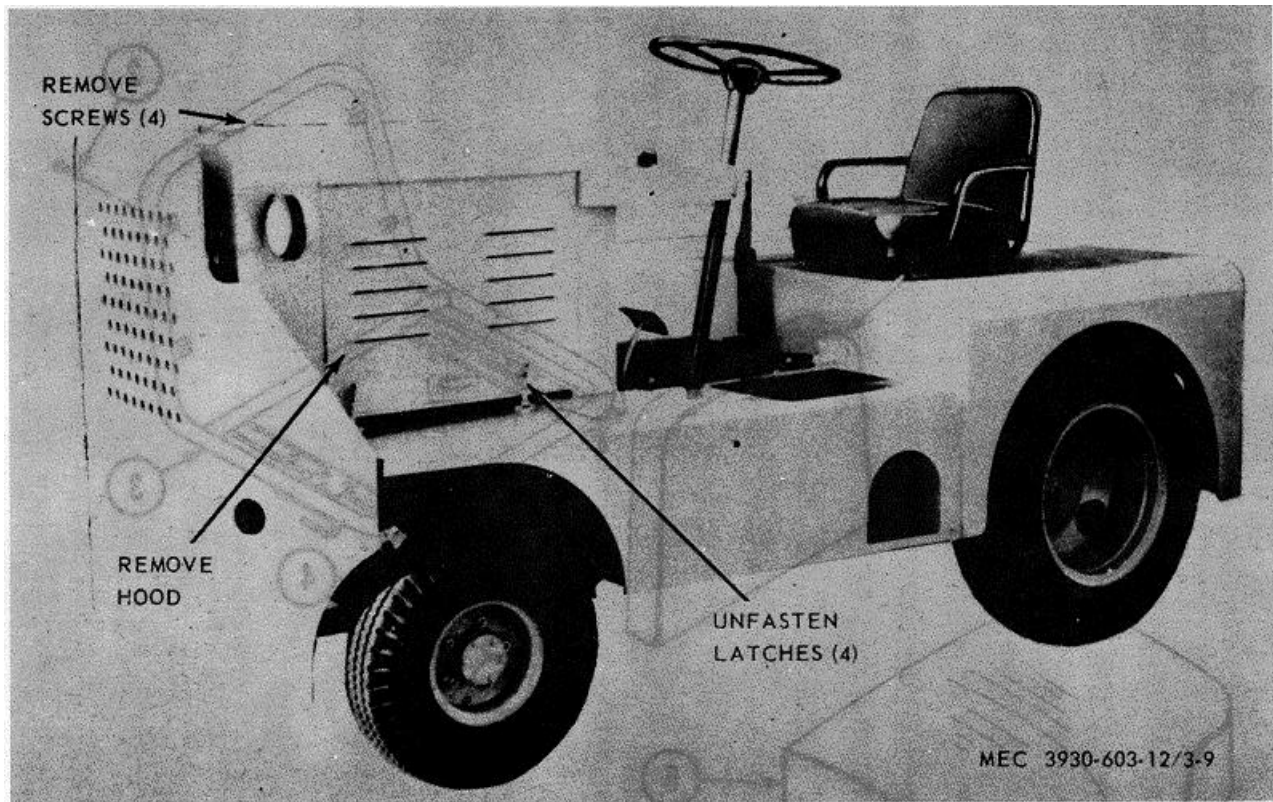

Figure 3-9. Hood assembly, removal and installation
a. *Removal.* Remove the hood assembly as illustrated in figure 3-9.
(1) Wash all parts. in an approved cleaning solvent and dry thoroughly.
(2) Inspect the hood for cracks, breaks, or other damage. Replace defective parts.
c. *Installation.* Install the hood assembly as illustrated in figure 3-9.